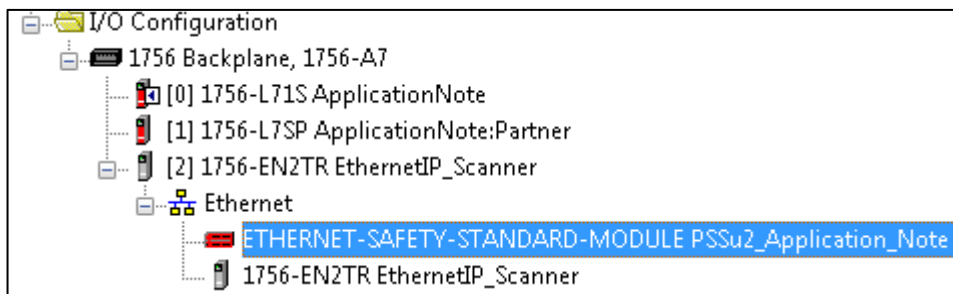

Figure 25: Studio 5000 – .L5X file » Ethernet-Safety-Standard-Module (Part 4)
- ▶ Double-click on the “ETHERNET-SAFETY-STANDARD-MODULE” (Figure 25) opens the parameters of the PSS u2 System.